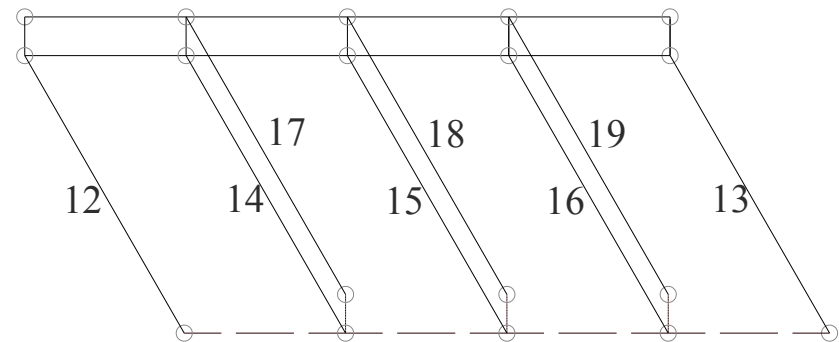

Figure 13. Lines in z-direction
Step 3: Adding lines in z-direction, see Figure 13
*else            ! Otherwise lines 12 to 19 (see Figure 13)
lmesh,17,19             ! Meshes lines 17 to 19 (see Figure 13)